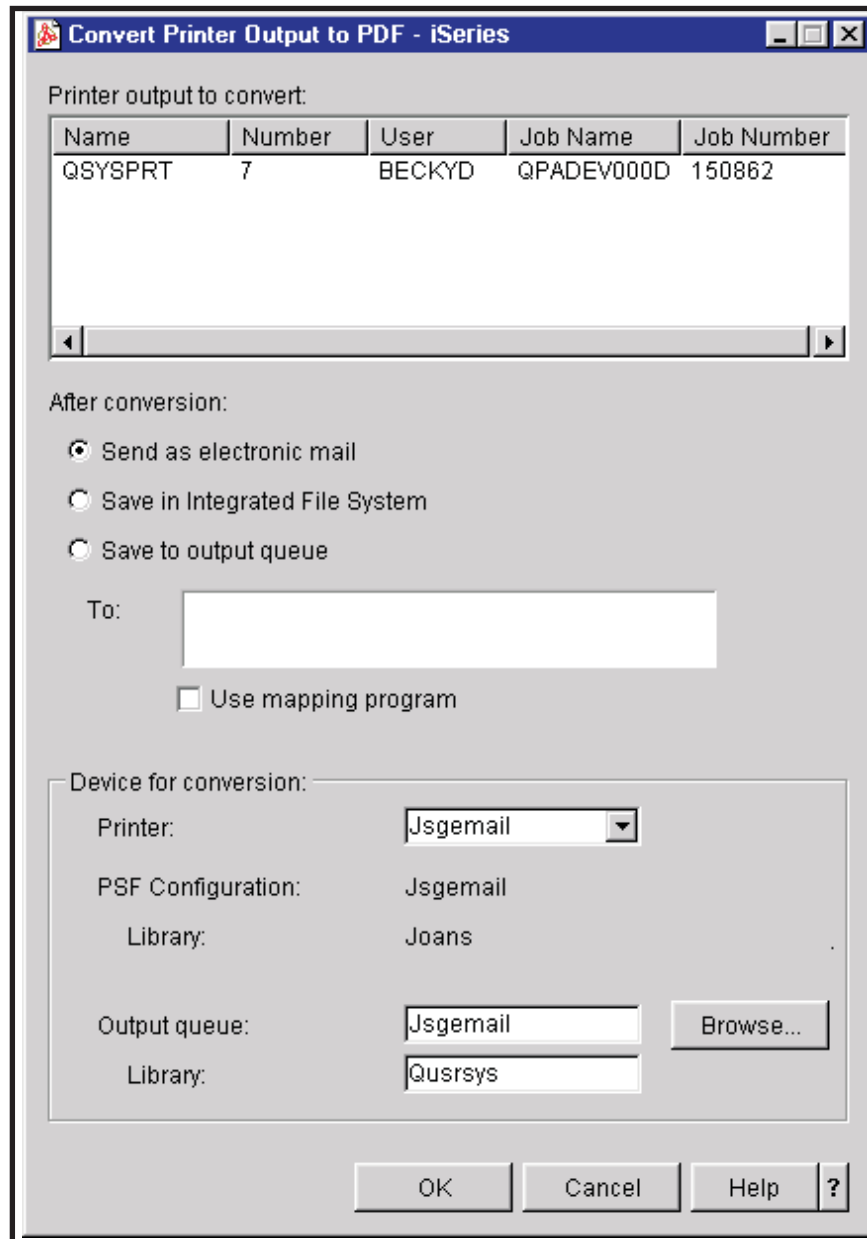

Figure 182. Convert Printer Output to PDF Window
7. The “Convert printer output to PDF” window opens, as shown in Figure 182 on page 271. Use these fields to specify what is done with the PDF, then specify the e-mail address to which the e-mail is sent, the directory to place the output in, or the output queue to place the output on, as appropriate. In the “Device for conversion” section, choose the printer to use to convert your output. If there are no devices listed, there are no appropriately configured devices. For help, press F1 or click **Help**.